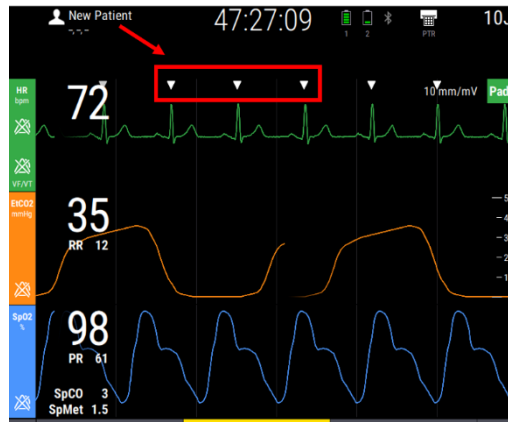

Figure 6
5. Verify the triangle sense (M) markers appear on the ECG waveform as shown in figure 6.
7. Push Charge button on the keypad. Upon reaching full charge, push and hold the Shock button on the keypad until the ENERGY DELIVERED message appears on the screen as shown in the Figure 6 above.